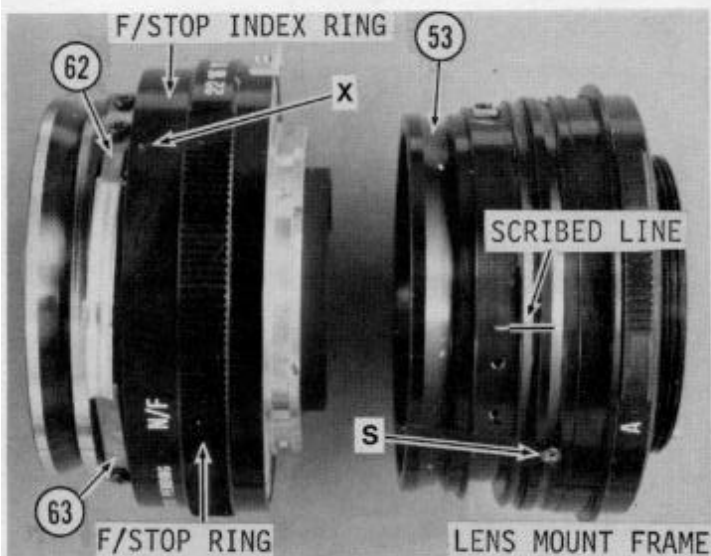

Fig. 32
5.1.1.1 Remove Latch Spring (62) and Latch Spring Booster Spring (63). (Fig. 32)
- 5.1.2.11 Replace Washer (154), Circlip ("E" Ring) (153). Replace three screws (S) to attach Lens Mount Ring to Lens Mount Assembly. (Figs. 32 and 33)
- 5.1.2.15 Replace Latch Spring Booster Spring (63) followed by Latch Spring (62). (Fig. 32)
- 5.2.1.1 Remove Latch Spring (62) and Latch Spring Booster Spring (63). Loosen three setscrews (X) in F/Stop Index Ring and remove it. (Fig. 32)
- 5.2.1.2 Remove F/Stop Ring. (Fig. 32)
- 5.2.1.3 Scribe a reference line across juncture of Lens Mount Ring (53) and Lens Mount Frame. (Fig. 32)
- 5.2.1.4 Remove six screws (S) which attach Lens Mount Ring to Lens Mount Frame. Separate Ring from Frame. (Fig. 32)
- 5.3.1.1 Remove Latch Spring (62) and Latch Spring Booster Spring (63). Loosen Three setscrews (X) in F/Stop Index Ring and remove it. (Fig. 32)
- 5.3.1.2 Remove F/Stop Ring. (Fig. 32)
- 5.3.1.3 Scribe a reference line across juncture of Lens Mount Ring (53) and Lens Mount Frame. (Fig. 32)
- 5.3.1.4 Remove six screws (S) which attach Lens Mount Ring to Lens Mount Frame. Separate Ring from Frame. (Fig. 32)
- 5.4.1.1 Remove Latch Spring (62) and Latch Spring Booster Spring (63). Loosen three setscrews (X) in F/Stop Index Ring and remove it. (Fig. 32)
- 5.4.1.2 Remove F/Stop Ring. (Fig. 32)
- 5.4.1.3 Scribe a reference line across juncture of Lens Mount Ring (53) and Lens Mount Frame. (Fig. 32)
- 5.4.1.4 Remove six screws (S) which attach Lens Mount Ring to Lens Mount Frame. Separate Ring from Frame. (Fig. 32)